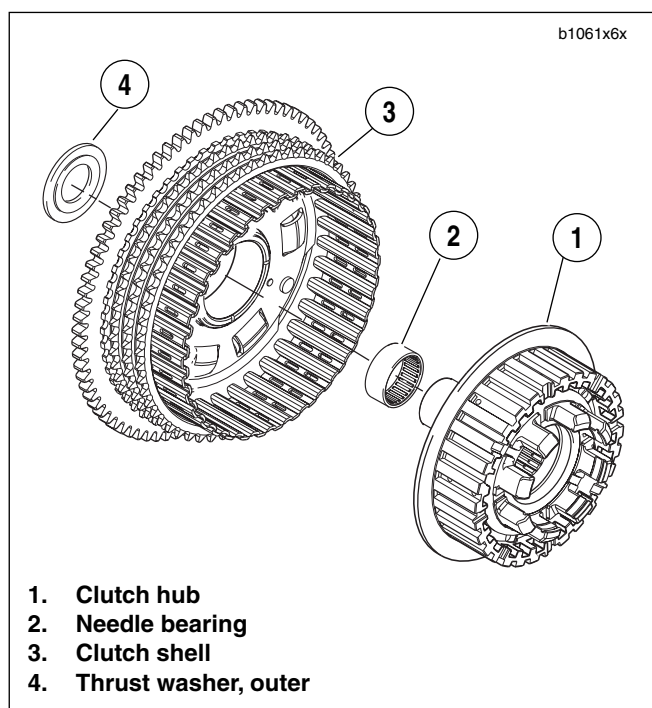
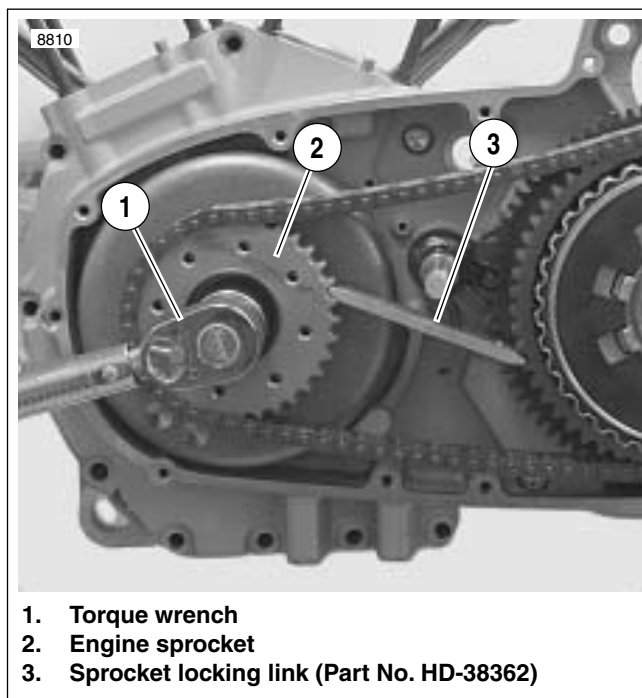

Figure 6-30. Clutch Hub and Shell Assembly
Figure 6-31. Sprocket Locking Link
1. See Figure 6-30. Assemble clutch hub (1) and shell (3) by sliding inboard end of clutch hub into shell bearing(2) by hand. No tools are required.
3. Verify that outer thrust washer (4) is installed on transmission shaft.
5. See Figure 6-31. Install the engine sprocket nut.